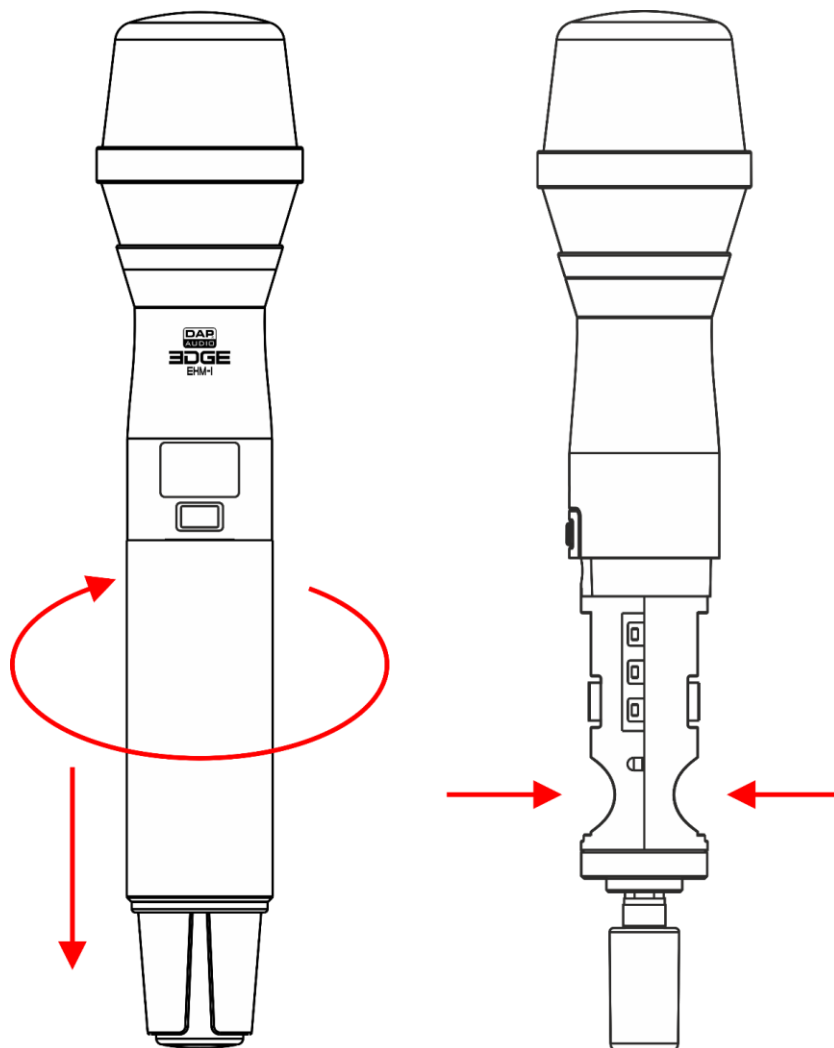

Fig. 11
- 01) Turn the **battery cover (25)** counterclockwise to remove it.
- 02) Insert the batteries into the **battery housing (29)** (Fig. 11). The transmitter operates with 2 x AA LR6 (alkaline) batteries. The batteries are not delivered with the product.
- 03) Install the **battery cover (25)** again on the transmitter. Do not overtighten.